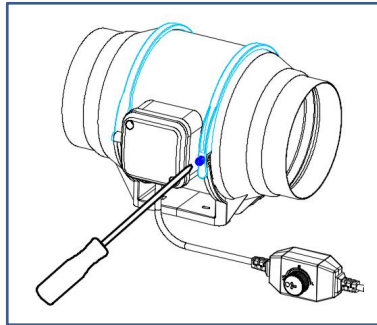

Fig.9.
- 5、 Place the plastic clamps back onto the flanges and tighten the screws back to secure the motor box. See the (Fig.9.)